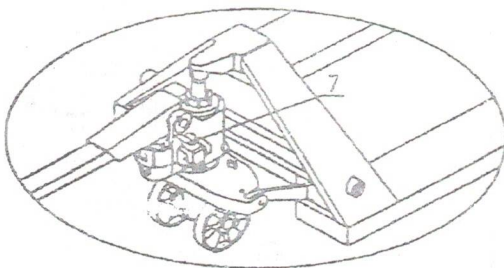

Fig. 3
- 3.6 See Fig.3 Raise Handle to a horizontal position. Pull out Pin(7) and keep it well for future replacement of the handle tube.